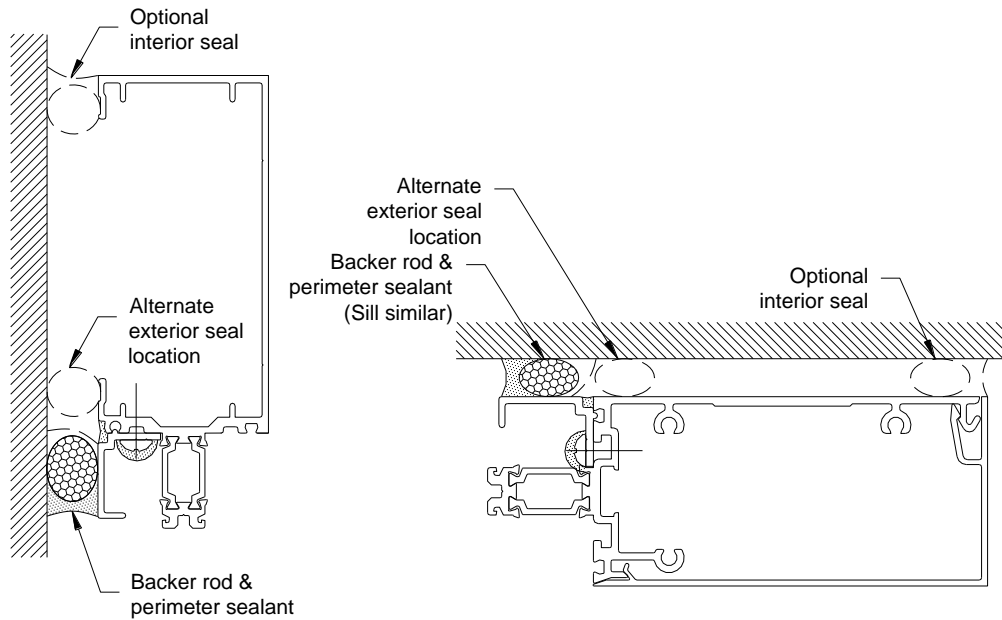

Figure 18: Perimeter Seal
- 8.3 When all framing members are installed, apply the perimeter seal. **See FIGURE 18**. The interior perimeter seal is not required for system performance but may be required for cosmetic purposes.